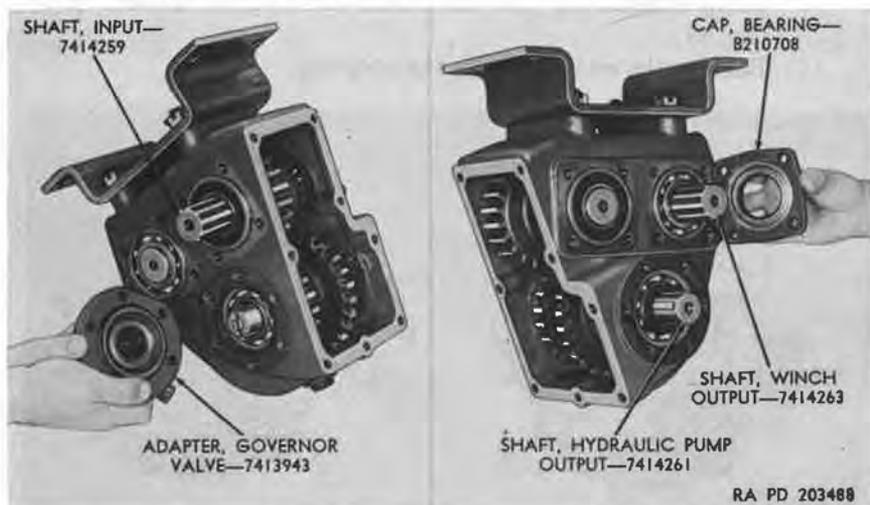

Figure 89. Bearing covers and caps removed.
*d. Remove Bearing Covers and Caps (fig. 89).* Remove hex-head capscrews, lockwashers, bearing covers, and bearing caps and discard gaskets.